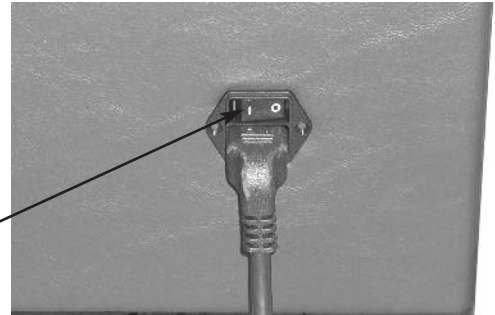

Fig. 4
7. Plug in A/C cord to back or foot end panel (See Fig. 4)
9. Turn table on by pressing the master power switch (See Fig. 4)